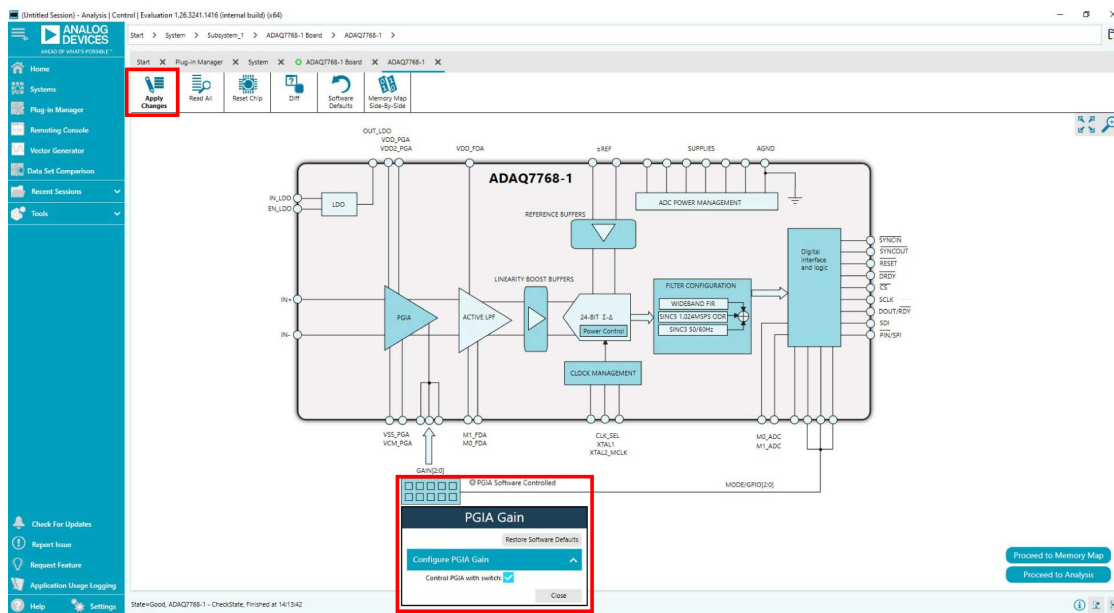

Figure 21. Input Range Through Mechanical Switch (S2)
- For this to work, check the **Control PGA with switch** in the PGA gain section. Then, click the **Apply Changes** for this to take effect, as shown in Figure 21 (with **PGA Software Controlled** indicator turned off).